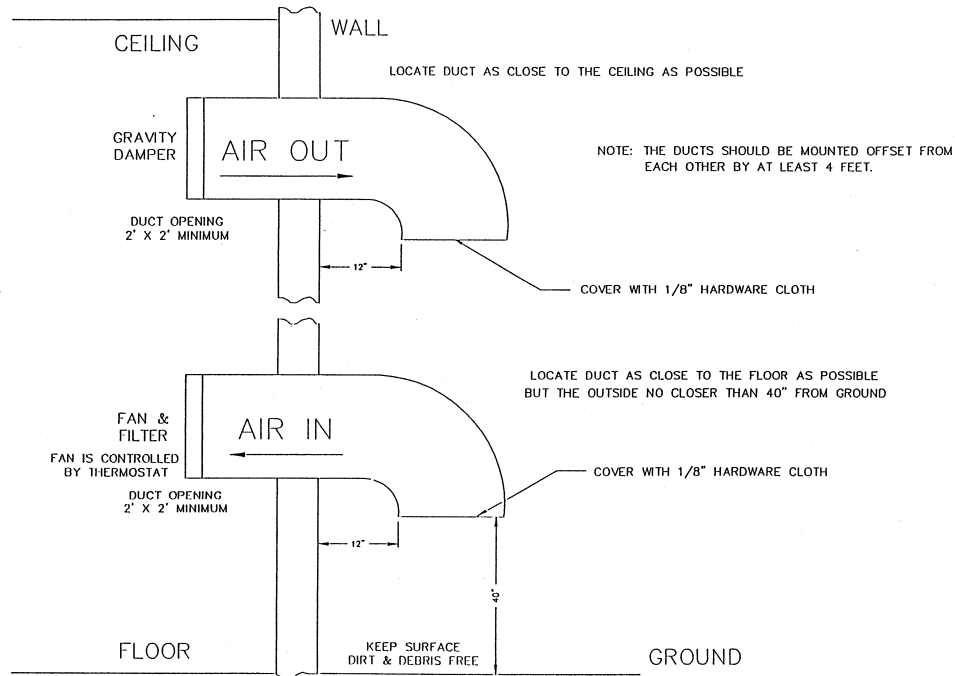

Figure 3-1. 1 kW Minimum Ventilation Configuration
- The information presented in this section is intended to serve only as a general guide and may need to be modified for unusually severe conditions. A combination of air conditioning and ventilation should not be difficult to design (see Figure 3-1).
- System interlocking and thermostat settings should be reviewed with Axcera. As with any equipment installation, it is always good practice to consult the manufacturer when questions arise. Axcera can be contacted at (724) 873-8100.